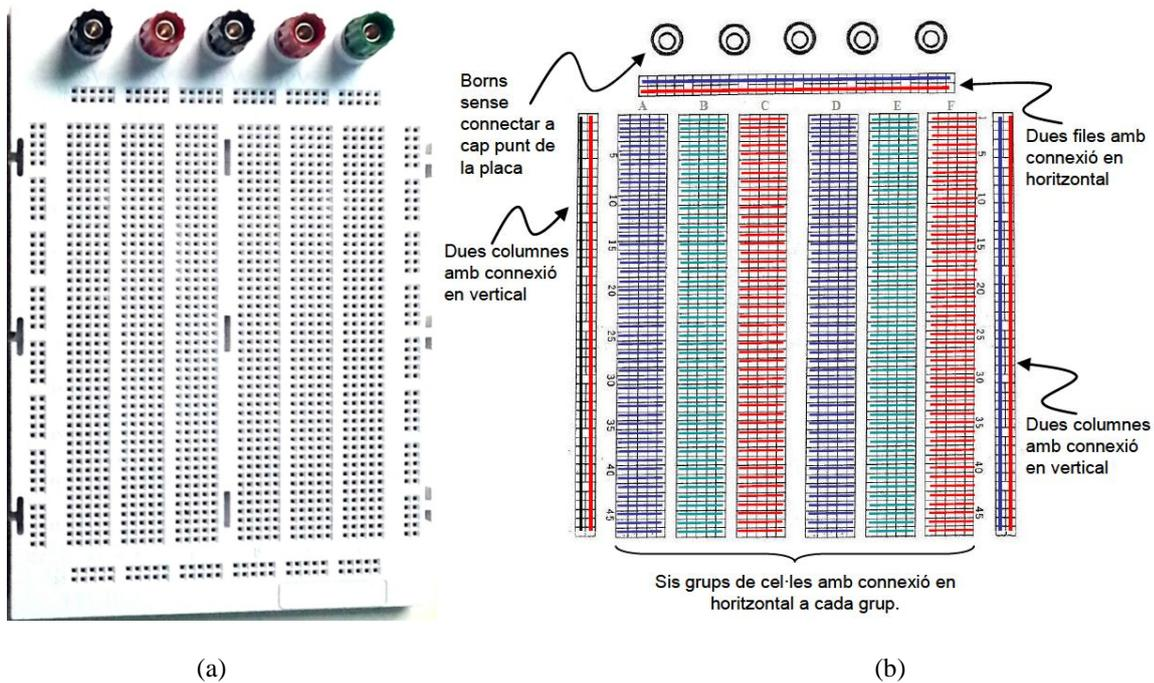

Figure 8. Overview of the breadboard: a) Aerial view; b) Internal connections of holes.
Another element, not considered an instrument, but essential when experimenting with electronics, is the test board (Fig.8). This board is known as the *bread-board* and it is where an electronic design is previously mounted and tested before their commercial implementation on a printed circuit board (PCB).
- In the remaining circuits (Fig. 9b and 9c), **1)** Use the information in Fig. 8 to guess the connections you need to make and; **2)** Proceed with the calculations and measurements.